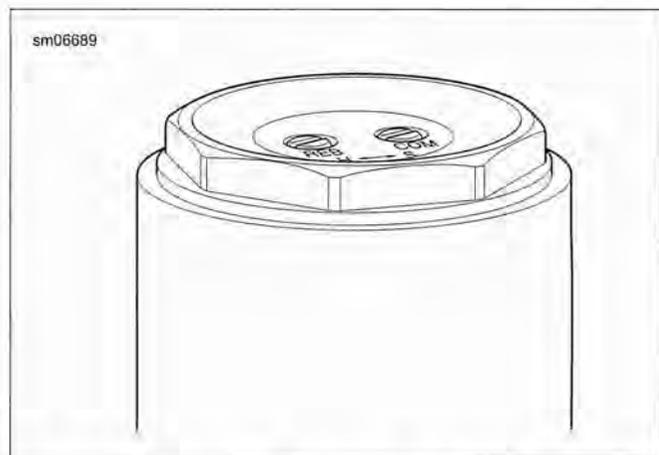

Figure 2-147. Loosen Fork Cap
3. See Figure 2-147. Loosen the fork cap with the FORK CAP WRENCH (Part No. HD-50084).